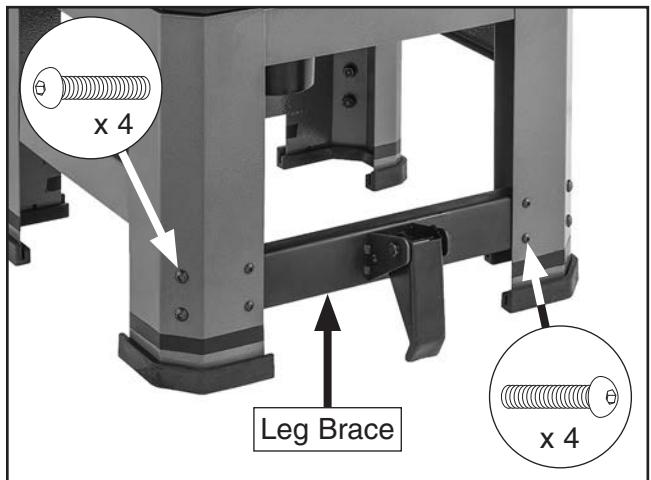

Figure 13. Leg brace installed.
3. Install leg brace with pre-installed (4) M8-1.25 x 16 button head cap screws and (4) M6-1 x 12 button head cap screws (see **Figure 13**).